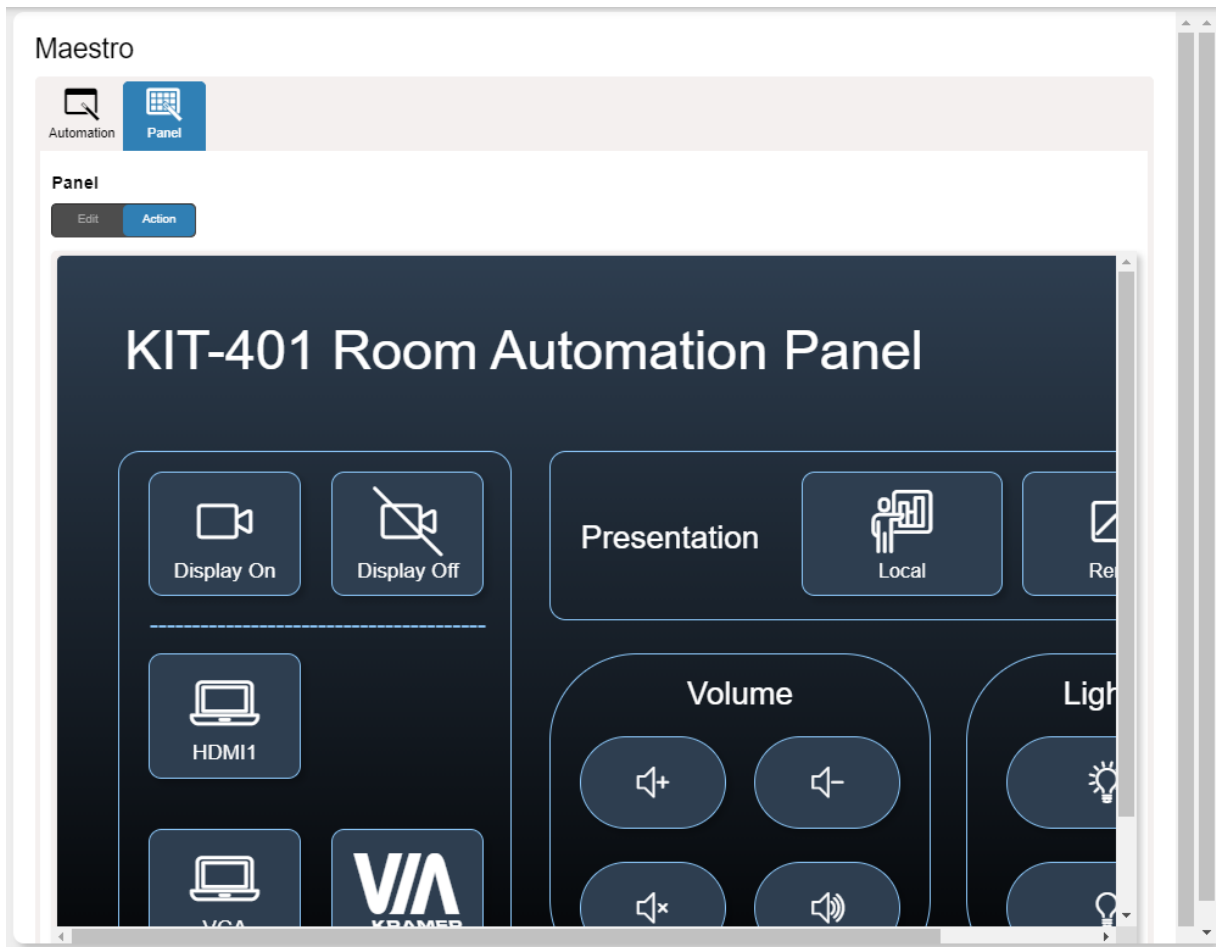

Figure 32: Automation Page – Panel Tab
2. Click the **Panel** tab. The default **KIT-401** Device Control Panel appears (see Figure 32).
2. Click the **Panel** tab. The **KIT-401** Device Control Panel appears (see Figure 32).